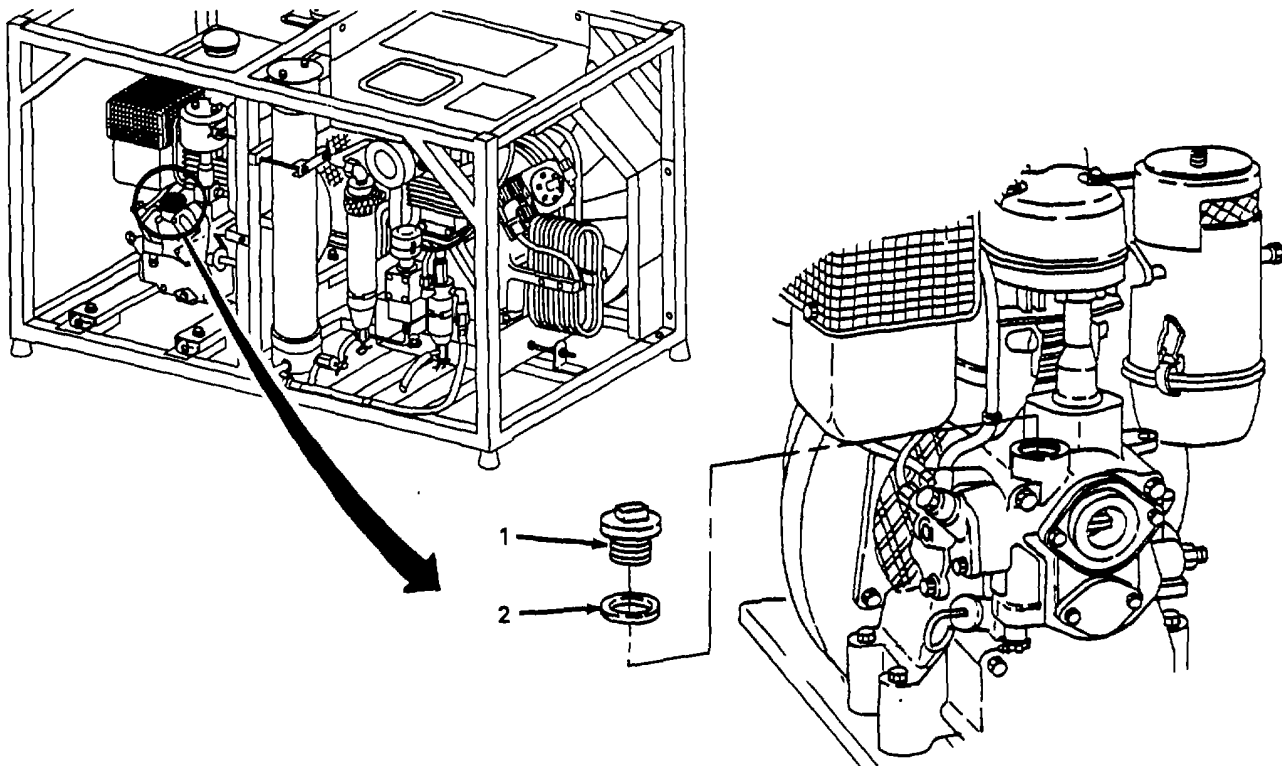

Figure 4-30. Filler Cap, Replace.
(3) *Replace filler cap.* (figure 4-30).
- (a) Clean area around filler cap (1) and ensure all dirt and debris is removed.
- (b) Remove filler cap (1) and gasket (2).
- (d) Install filler cap (1) and gasket (2).